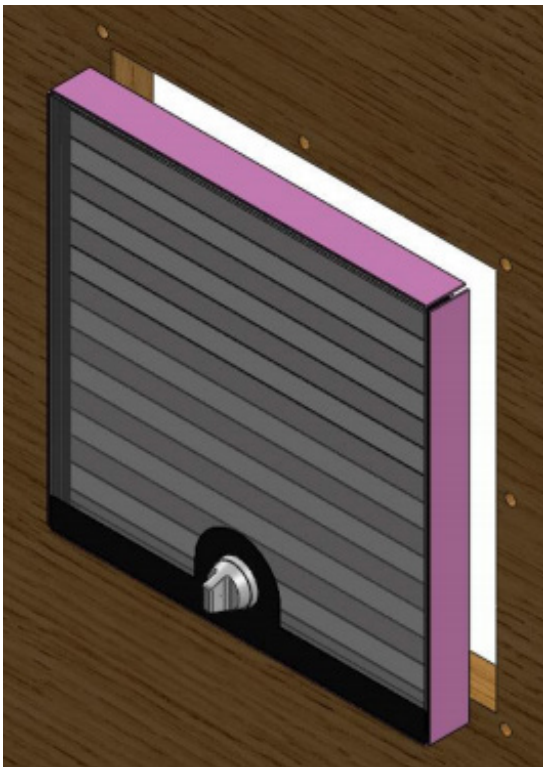

Fig. 6.
14. Place the panel into the door [Fig. 6.] in the customer specified orientation [which operator is to the corridor]. Support the panel from both sides of the door before surround is fitted.